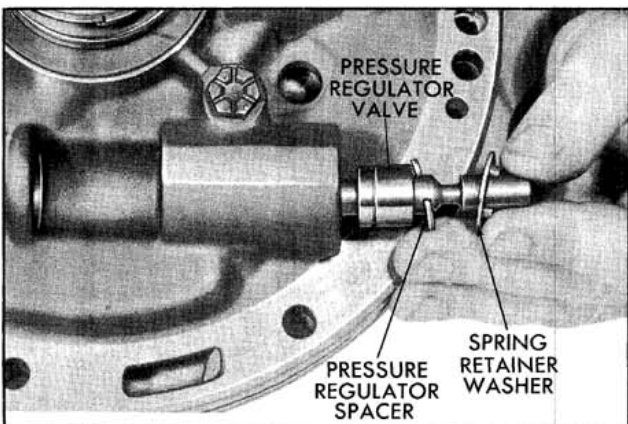

Fig. 6-115 Installing Pressure Regulator Valve
3. Install the spacer(s) if used, retainer and spring, into the pressure regulator bore. (Fig. 6-115)